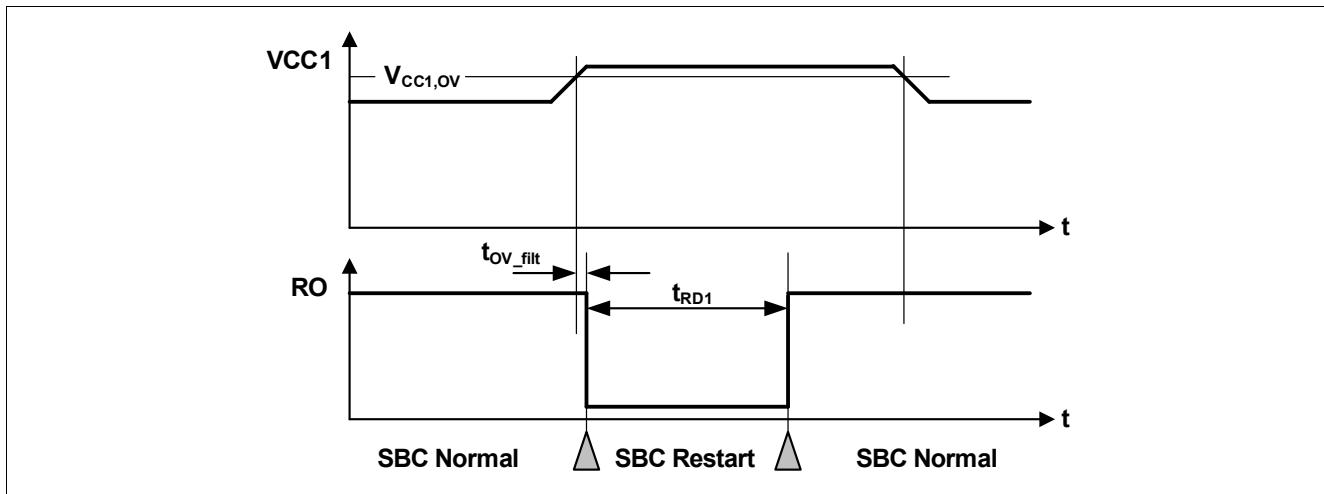

Figure 54 VCC1 Over Voltage Timing Diagram
- If the bit **VCC1_OV_RST** is set and **CFG_P** = '1', then SBC Restart Mode is entered. The FOx outputs are activated. After the reset delay time (t_{RD1}), the SBC Restart Mode is left and SBC Normal Mode is resumed even if the VCC1 over voltage event is still present (see also **Figure 54**). The **VCC1_OV_RST** bit is cleared automatically;